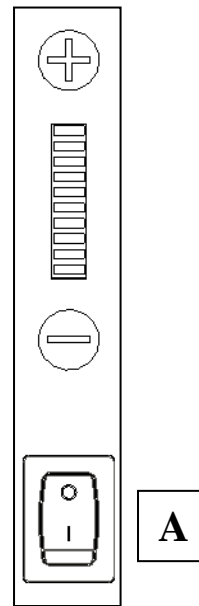
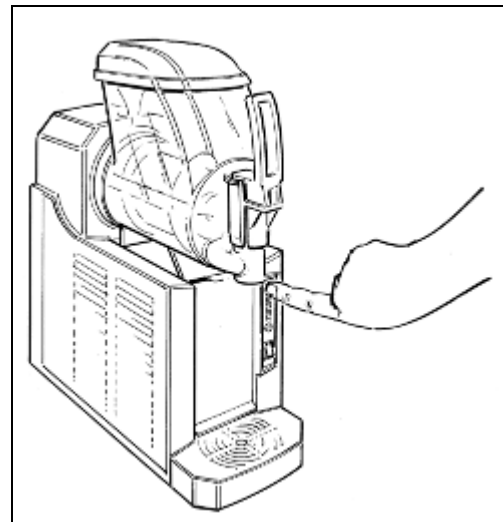

Fig. 24
Fig. 25
- Switch on the unit main switch A (fig.24).
- In order to activate the refrigerating system and to regulate the product consistency, it is necessary to use the buttons + and - on the control board (fig.25); operating on the + button, the number of lighted LED will increase with the product consistency; operating on the - button, the number of lighted LED will decrease with the product consistency (fig.24).